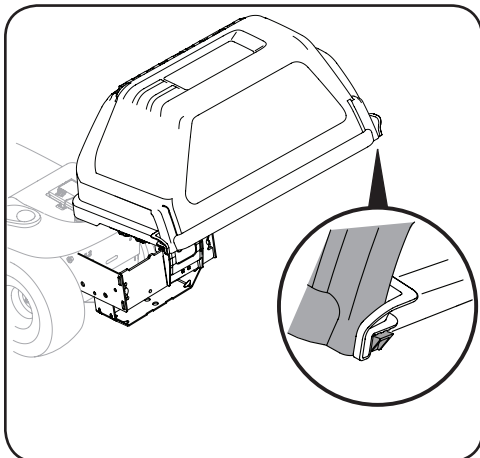

Figure 4-16
- Swing the upper grass catcher cover down to close the attachment, pushing in on the rear right-side and rear left-side tabs and lock them into place under the notches on each side. Ensure a secure, snug fit. See Figure 4-16.